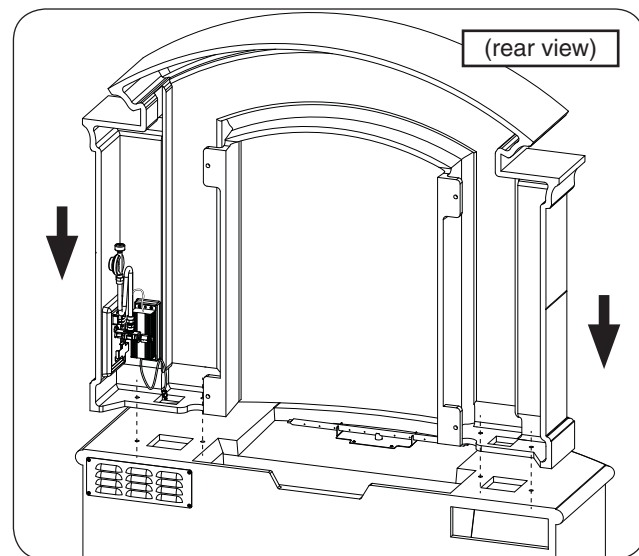

Fig. 19-3 Place top onto hearth
5. Place the top piece onto the hearth as shown in Fig. 19-3.